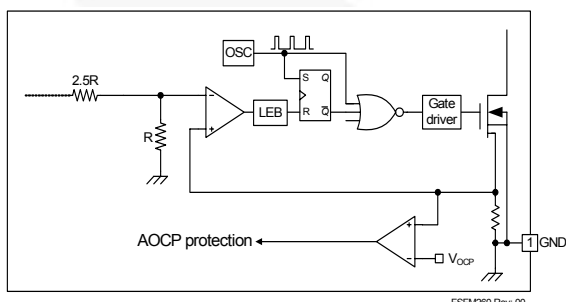

Figure 21. Abnormal Over-Current Protection
3.4 Abnormal Over-Current Protection (AOCP): When the secondary rectifier diodes or the transformer pins are shorted, a steep current with extremely high di/dt can flow through the SenseFET during the LEB time. Even though the FPS has overload protection, it is not enough to protect the FPS in those abnormal cases, since severe current stress is imposed on the SenseFET until OLP triggers. This IC has an internal AOCP circuit shown in Figure 21. When the gate turn-on signal is applied to the power SenseFET, the AOCP block is enabled and monitors the current through the sensing resistor. The voltage across the resistor is compared with a preset AOCP level. If the sensing resistor voltage is greater than the AOCP level, the set signal is applied to the latch, resulting in the shutdown of the SMPS.